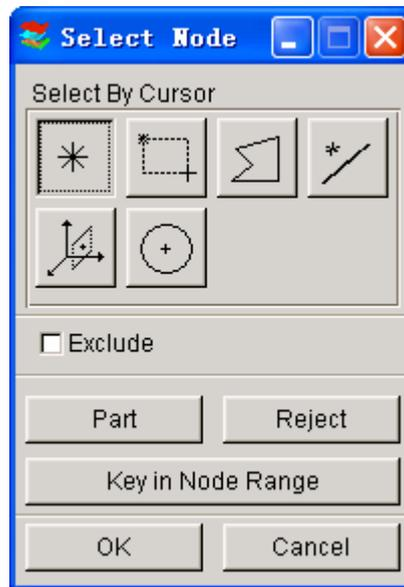

Figure 5.4.2 Select Node
- Select nodes by using options in the SELECT NODE dialog window. See Figure 5.4.2.